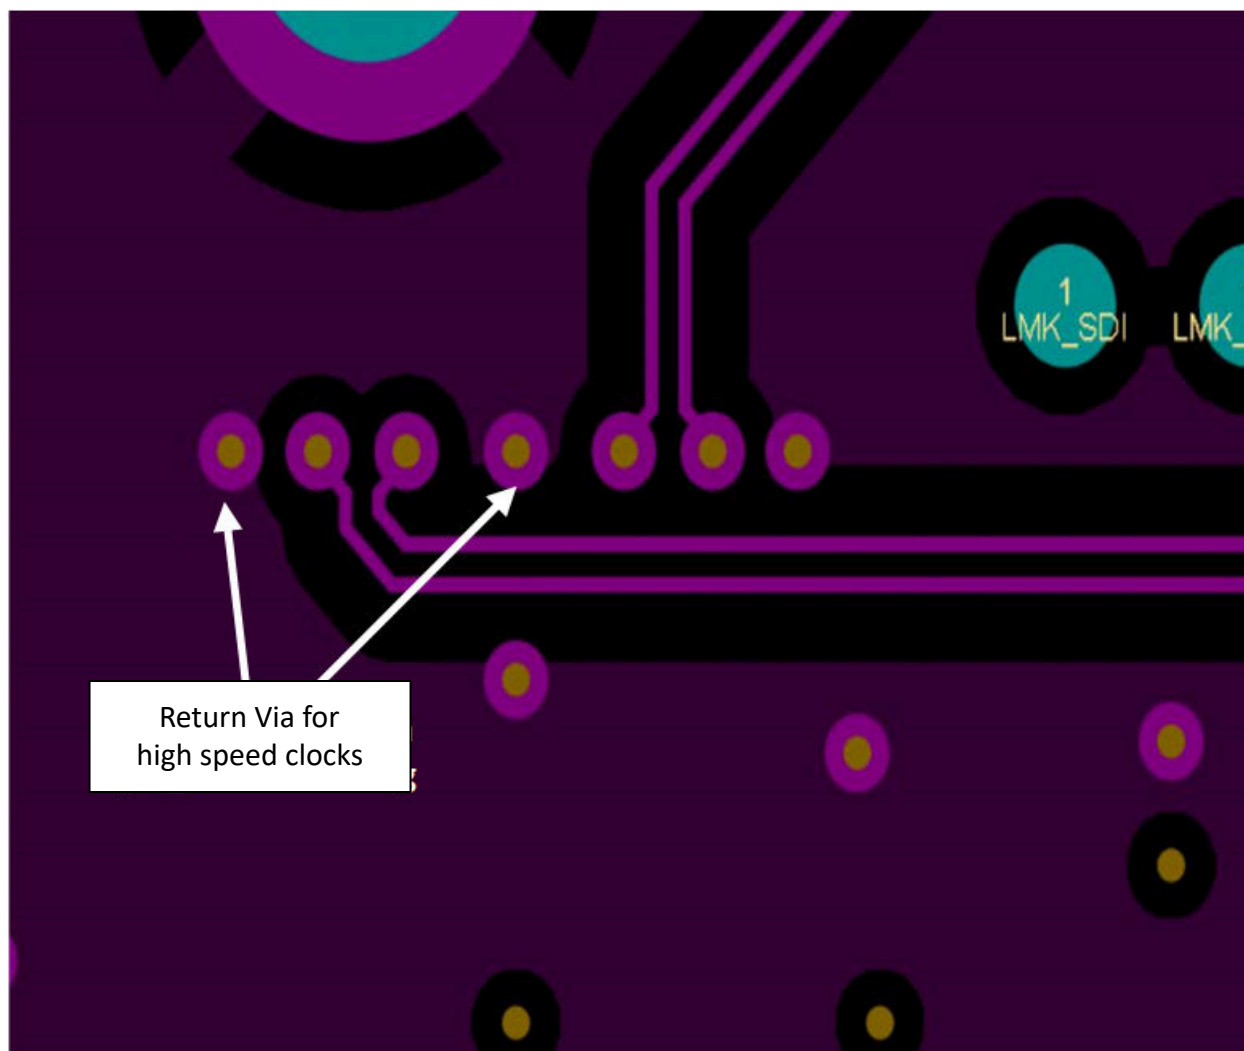

図 8-26. Return Vias for High Speed Clock
8. When high-speed signals must transition to another layer using vias, transition as far through the board as possible (top to bottom is best case) to minimize via stubs on top or bottom of the vias. If layer selection is not flexible, use back-drilled or buried, blind vias to eliminate stubs. Always place two ground vias (“return vias”) close to critical high-speed signal trace via when transitioning between layers to provide a nearby ground return path. See 図 8-26 and 図 8-27 as examples.